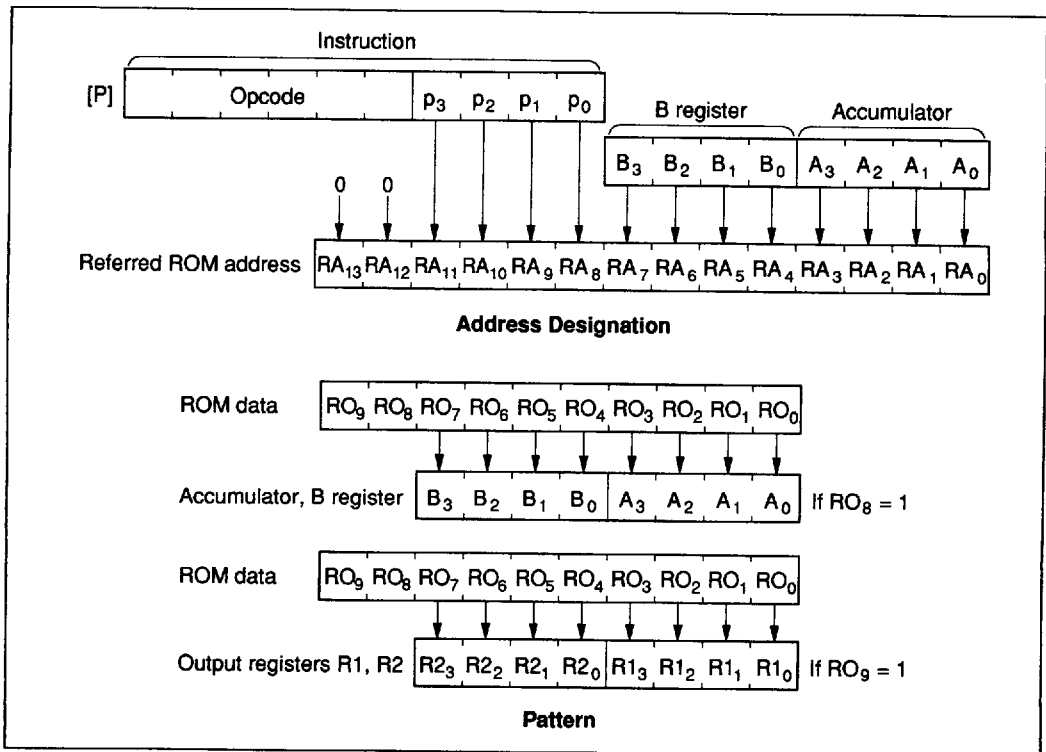

Figure 29 P Instruction
**P Instruction:** ROM data addressed by table data addressing can be referenced by the P instruction (figure 29). When bit 8 in the referred ROM data is 1, 8 bits of ROM data are written into the accumulator and B register. When bit 9 is 1, 8 bits of ROM data are written into the R1 and R2 port output registers. When both bits 8 and 9 are 1, ROM data are written into the accumulator and B register, and also to the R1 and R2 port output registers at the same time.